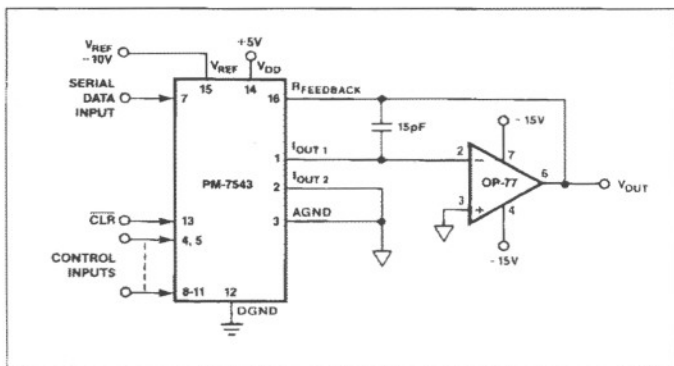

FIGURE 7: Unipolar Operation with High Accuracy Op Amp (2-Quadrant)
1. Phase compensation (see Figures 7 and 8).
In most applications, linearity depends upon the potential of  $I_{OUT1}$ ,  $I_{OUT2}$ , and AGND (pins 1, 2, and 3) being exactly equal to each other. In most applications, the DAC is connected to an external op amp with its noninverting input tied to ground (see Figures 7 and 8). The amplifier selected should have a low input bias current and low drift over temperature. The amplifier's input offset voltage should be nulled to less than  $\pm 200\mu V$  (less than 10% of 1 LSB).
The circuit shown in Figures 7 and 8 may be used with an AC or DC reference voltage. The circuit's output will range between 0V and approximately  $-V_{REF}$  (4095/4096) depending upon the digital input code. The relationship between the digital input and the analog output is shown in Table 2. The  $V_{REF}$  voltage range is the maximum input voltage range of the op amp or  $\pm 25V$ , whichever is lowest.
- Nominal full scale for the circuits of Figures 7 and 8 is given by  $FS = -V_{REF} \left( \frac{4095}{4096} \right)$ .
- Nominal LSB magnitude for the circuits of Figures 7 and 8 is given by  $LSB = V_{REF} \left( \frac{1}{4096} \right)$  or  $V_{REF} (2^{-n})$ .
The transfer function for the PM-7543 connected in the multiplying mode as shown in Figures 7 and 8 is: